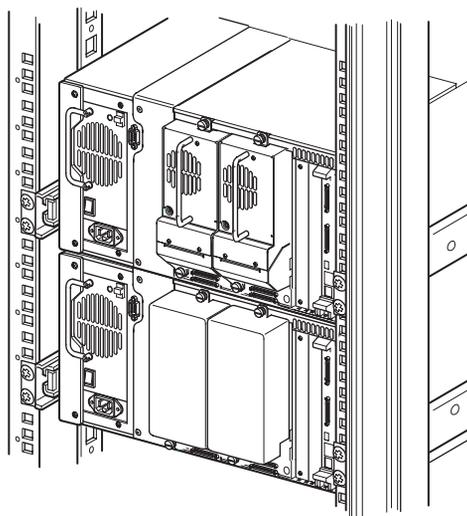

Figure 6: 5U library installation (9000 rack enclosure shown)
1. Install two 5U libraries, as shown in Figure 6, following the instructions in the *HP StorageWorks MSL5000 and MSL6000 Series Tape Library User Guide*.